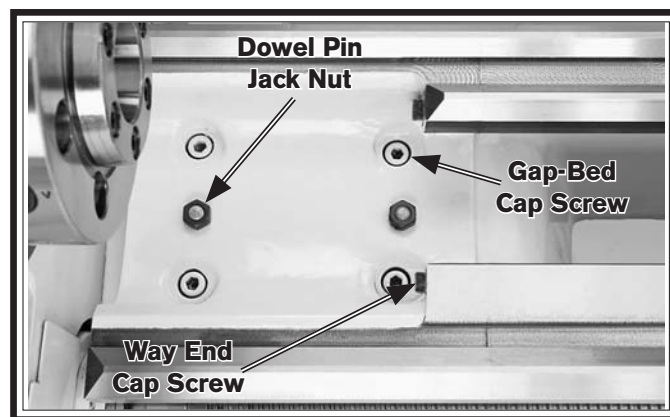

Figure 137. Fasteners holding gap in place.
1. Remove the four gap-bed cap screws, shown in **Figure 137**.